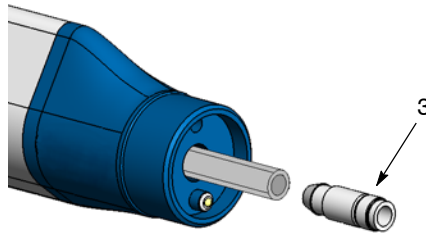

Figure 2 *Remove Barbed Tube Fitting*
3. See Figure 2. Pull the barbed tube fitting (3) out of the gun and disconnect the flexible powder tubing from the tube fitting.